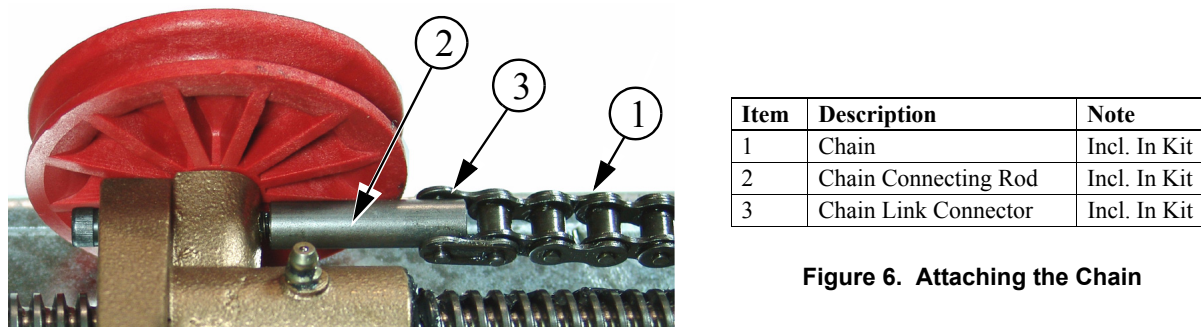

Figure 6. Attaching the Chain
9. Attach the Chain to the Connecting Rod using the Chain Link Connector provided in the Parts Package (**See Figure 6**).